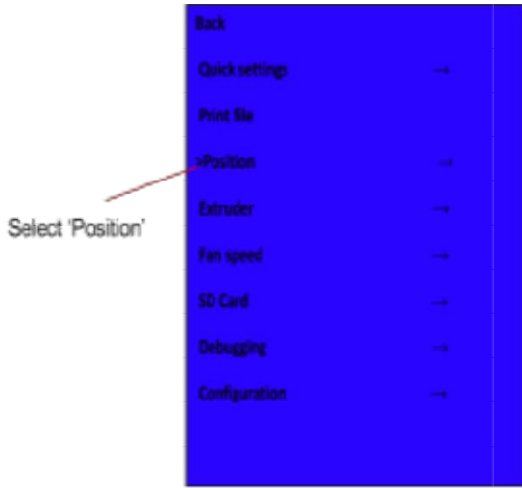
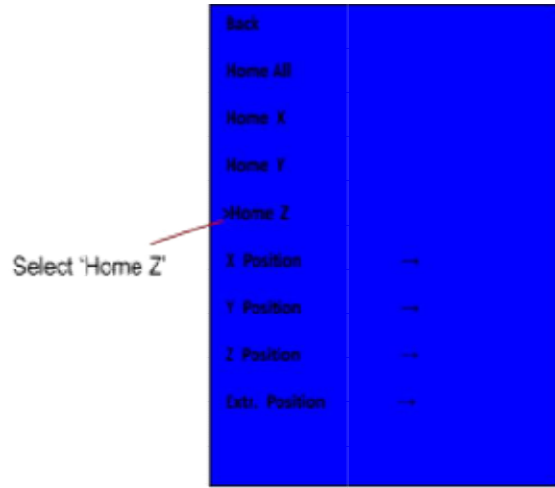

Fig 1
Fig 2
2. Press jog wheel once and scroll down to "Position" (see fig 1 below), scroll down to 'Home Z' (see fig 2 below) and select by pressing the jog wheel, the bed will raise towards the nozzle.